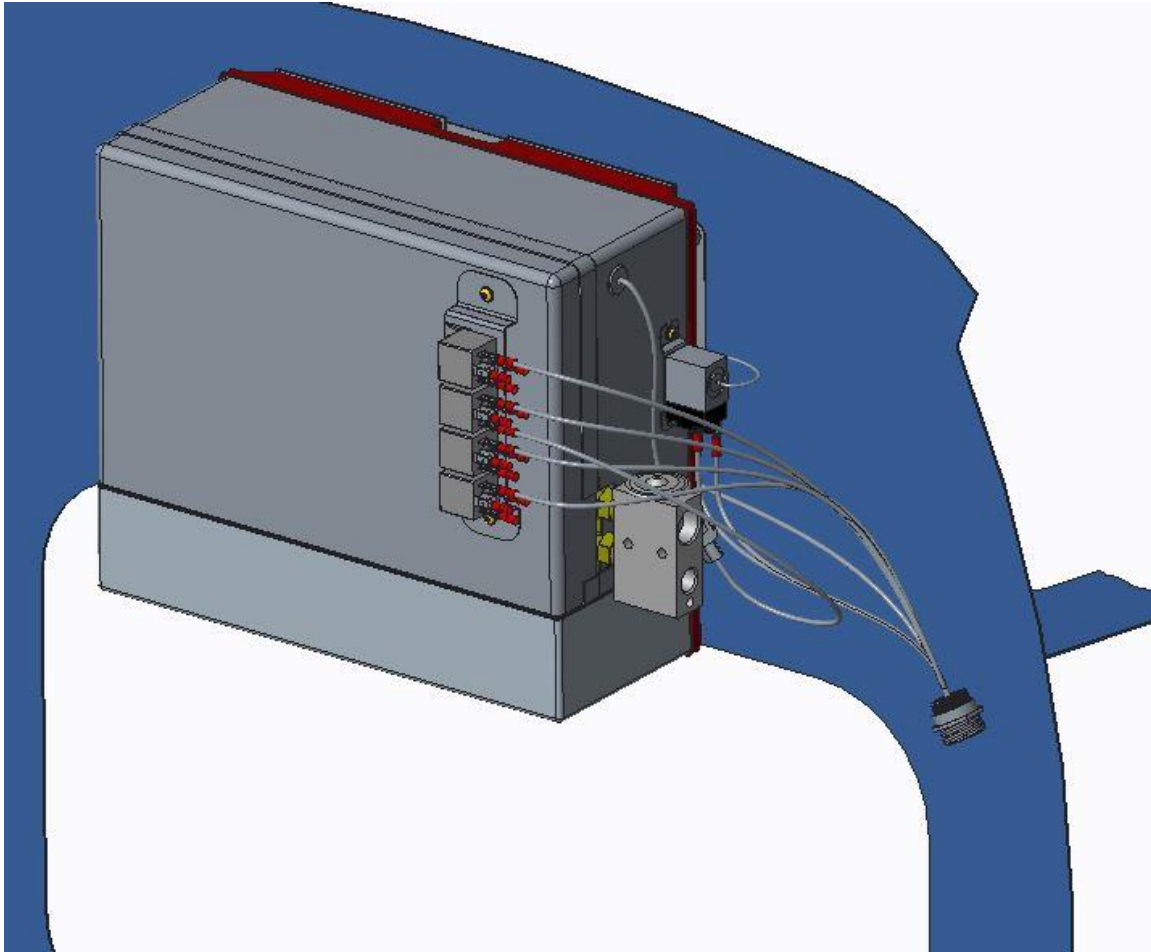

Figure 30 - Mount Evaporator
- 4) Mount the Evaporator per notes 3 through 5. See Figure 30.